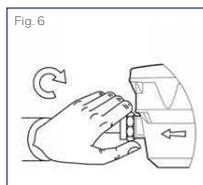

Fig. 6
8. Locate the nuts on pipework onto the meter threaded flanges. Screw on finger tight (Fig. 6).